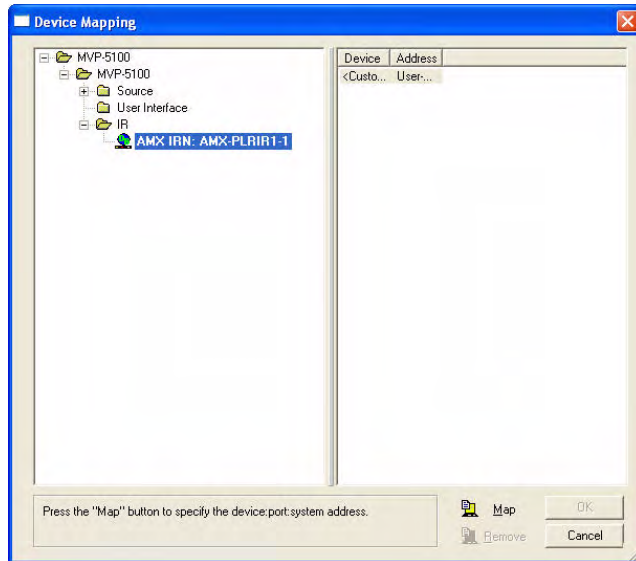

FIG. 79 Device Mapping window
- When the IR file appears in the Workspace Tree, right-click on the file and select *Device Mapping...* to open the *Device Mapping* window (FIG. 79).